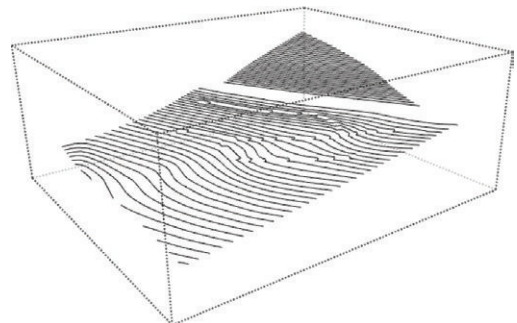

Figure 15.18 The topography lines are isolated; the Hide Rest of Model option is on for effect.
7. Delete all of the rectangle slices. You no longer need them after the topography lines are created (Figure 15.18).